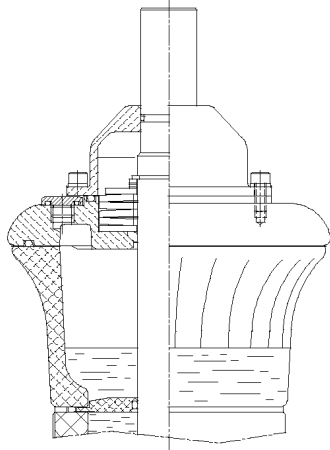
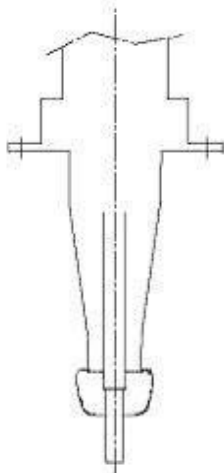

Fig. 15
Fig. 16
In this type of execution, the current is carried directly by the central bushing on-piece conductor from the H.V. terminal (fig. 15) to the bottom one (fig. 16).
- Fix deflector (fig. 16): in this case the shield can not be removed because it is fixed to the bushing's body;